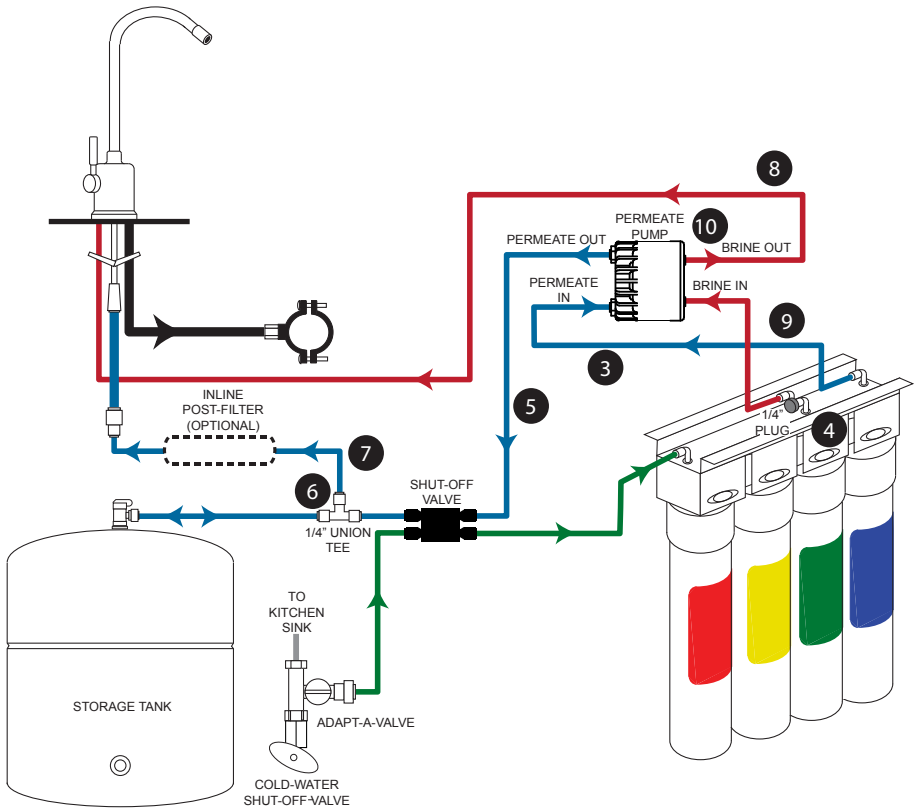

Figure 3: RO Pure after installation of Permeate Pump
- Step 11 - Make sure your installation matches the diagram shown in Figure 3